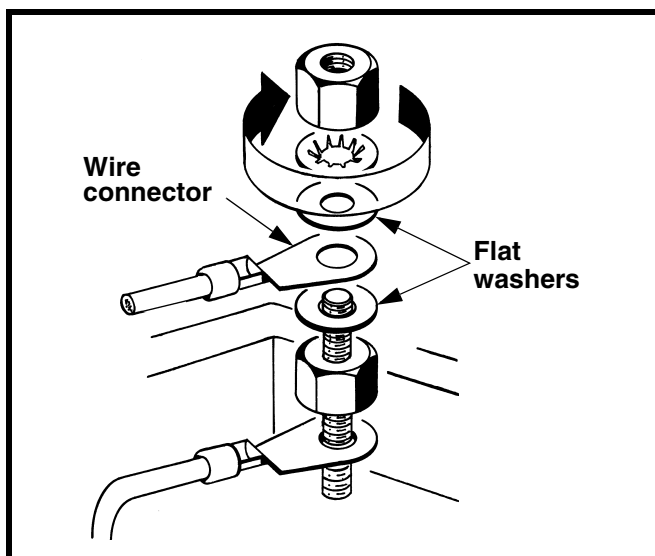

Figure 4. Installing Wire Connector
3. Install wire connector between the two flat washers. See Figure 4.